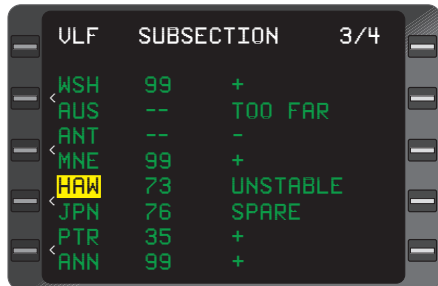

Figure 3-191
4. **NAV** or **NXT** Key - DEPRESS to sequence through **VLF SUBSECTION**. Select either VLF Comm or Omega Station List Page. (Figure 3-191)
5. Line Select Key - DEPRESS to position cursor over station identifier to be deselected. (Figure 3-191)